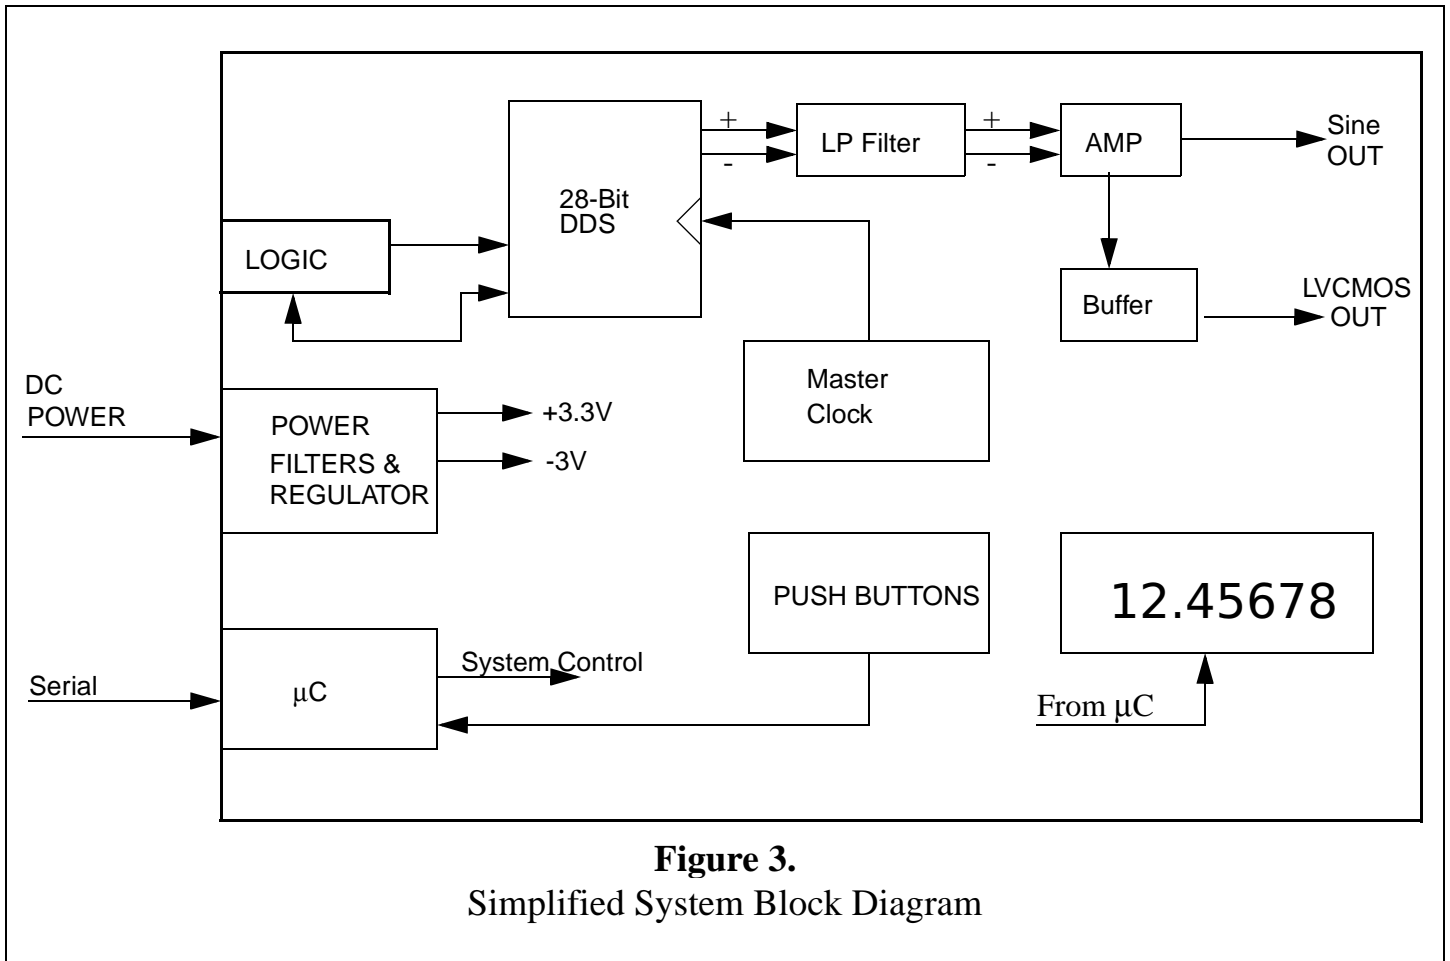

Figure 3.
5.1 Please refer to the simplified System Block Diagram in Figure 3 for the following discussion.